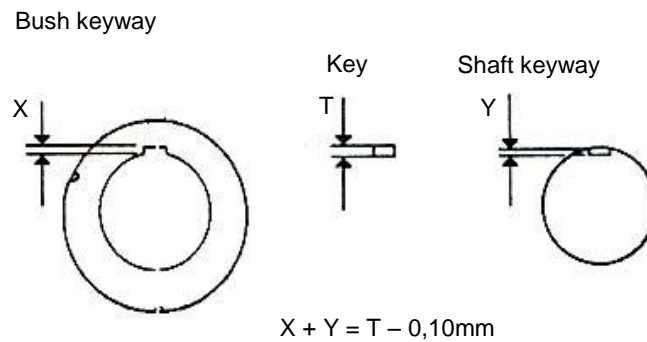

FIG 22.
L. Measure the depth of the keyways on the bush and shaft. (Fig 22). Measure the height "T" of the key. Make sure that there will be approximately 0.10mm top clearance.